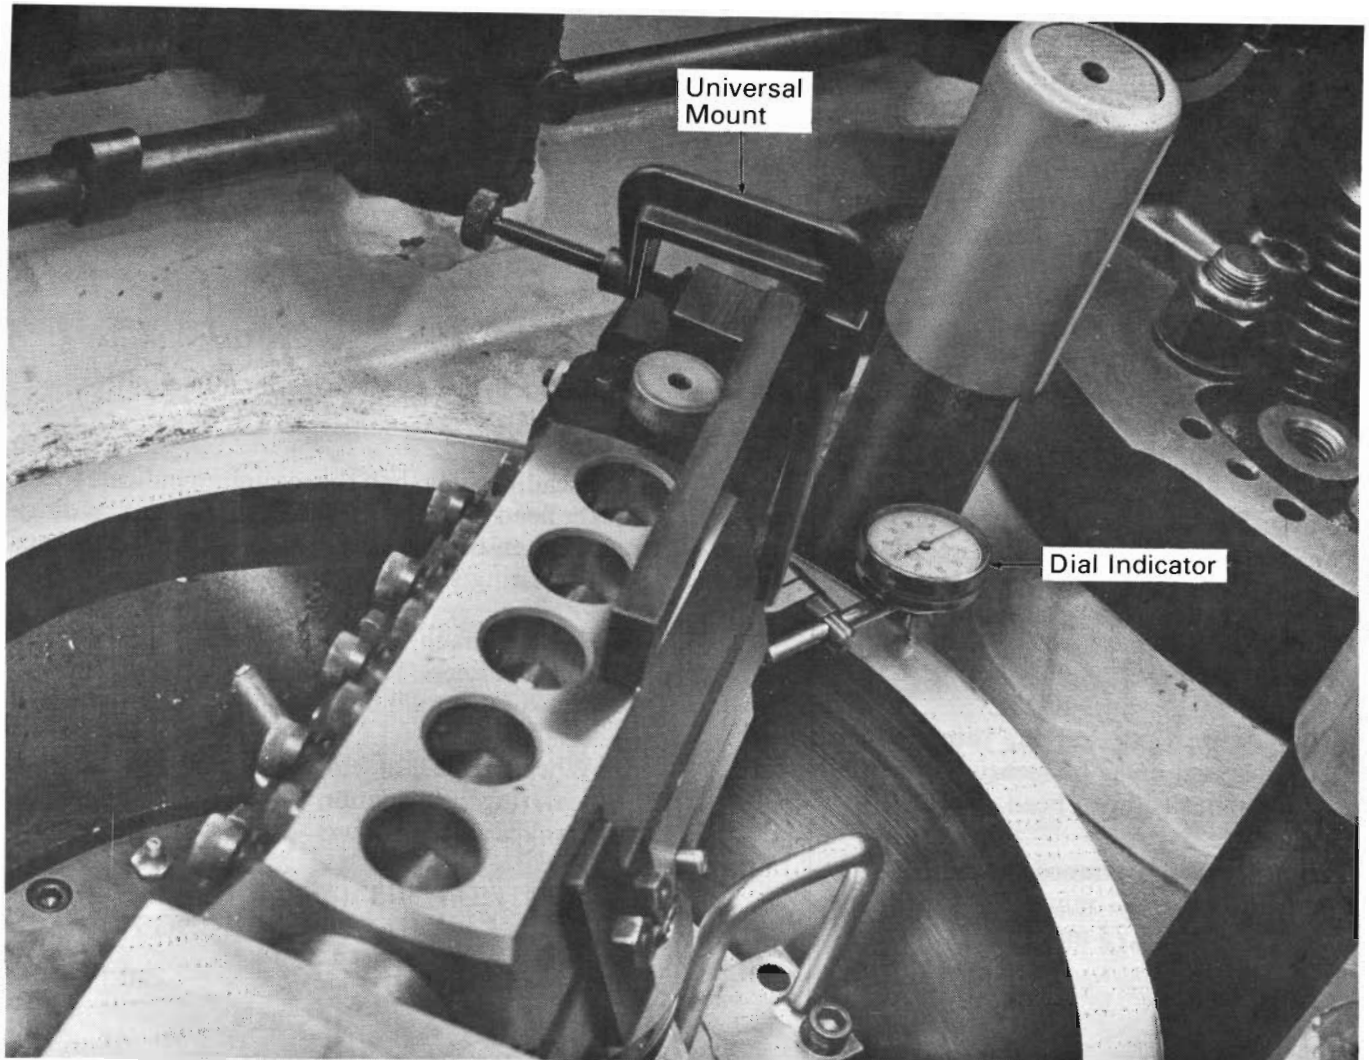

Fig.16 - Checking Cutting Head Runout
7. Check cutting head runout using a dial indicator mounted to the cutting head. Mount indicator so that dial indicator button contacts the unworn portion of the head retainer, Fig. 16. Rotate cutting head by hand, noting dial indicator reading. Maximum allowable runout is .005" TIR.